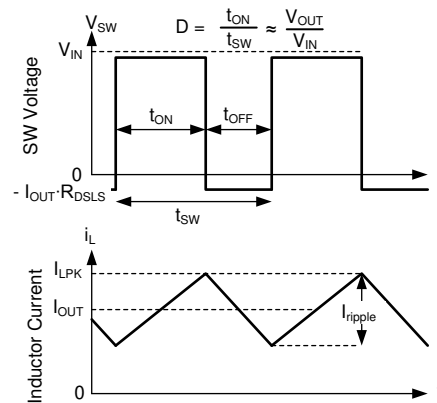

Figure 22. SW Voltage and Inductor Current Waveforms in Continuous Conduction Mode (CCM)
The following operating description of the LM61435-Q1 refers to the Functional Block Diagram and to the waveforms in Figure 22. In CCM, the LM61435-Q1 supplies a regulated output voltage by turning on the internal high-side (HS) and low-side (LS) NMOS switches with varying duty cycle (D). During the HS switch on-time, the SW pin voltage, V_{SW} , swings up to approximately V_{IN} , and the inductor current, i_L , increases with a linear slope. The HS switch is turned off by the control logic. During the HS switch off-time, t_{OFF} , the LS switch is turned on. Inductor current discharges through the LS switch, which forces the V_{SW} to swing below ground by the voltage drop across the LS switch. The converter loop adjusts the duty cycle to maintain a constant output voltage. D is defined by the on-time of the HS switch over the switching period: